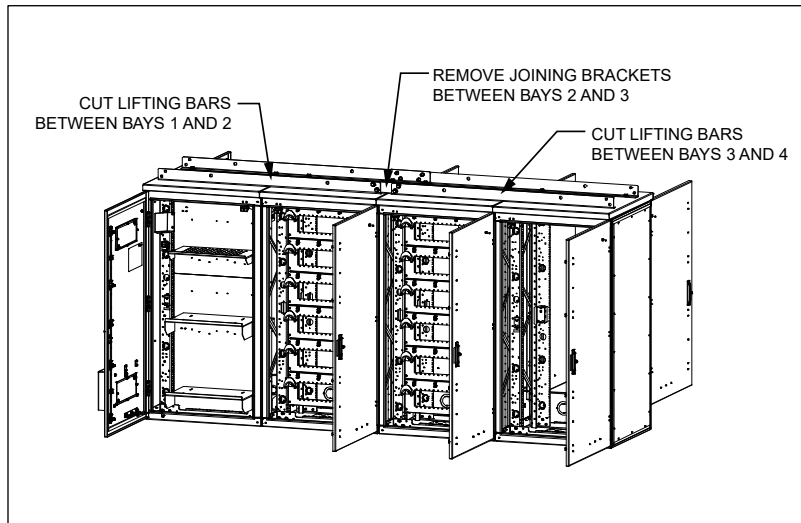

Figure 2 Cut Lifting Bars
1. Locate the points on the lifting bars above the points where the Bays 1 and 2 and Bays 3 and 4 are joined (Figure 2). Make vertical cuts through the lifting bars. Also, remove the joining brackets between Bays 2 and 3. This ensures that once the bays are separated, all cabinets will have lifting bars. Take care not to cut through the bays' solar shields.